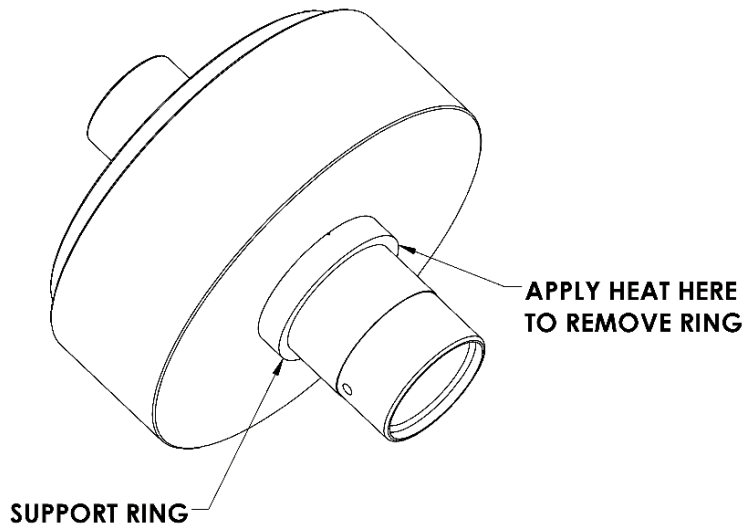

Figure 21 Using a Propane Torch to Remove the Support Ring
5. **Perform** this 5th step **ONLY IF** the support ring does not pass inspection or has reached its recommended replacement time. A small amount of the short seal ring may have extruded under the short support ring, adhering it to the check valve body stem. To **remove** the short support ring from the check valve body stem (see ***Figure 21*** on next page), **use** a propane torch to **slightly heat** around the diameter of the ring for 20-30 seconds. This softens the plastic between the check valve body stem and the short support ring, allowing you to **remove** it by hand **using** a rag or pair of channel lock pliers.